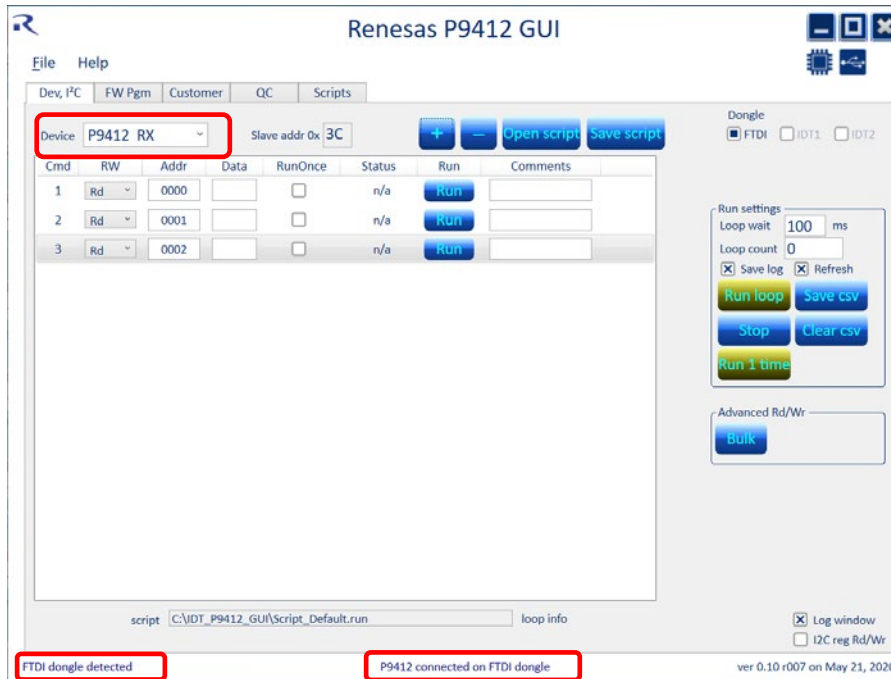

Figure 5. Initial Screen of P9412 GUI
| Figure 5. | Initial Screen of P9412 GUI..... | 9 |
1. Open the GUI program – P9412_Demo_GUI_v0.10r007_.exe or higher. The initial screen of the GUI is shown on Figure 5.